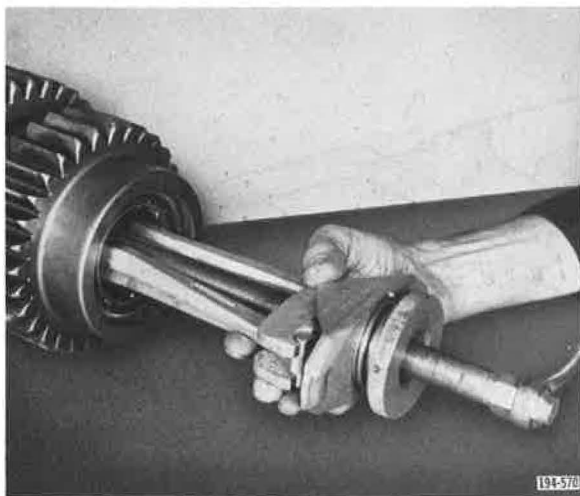

Figure 140. Removing Bearing
2. Remove countershaft front bearing, using puller CG270, or equivalent. See Figure 140.